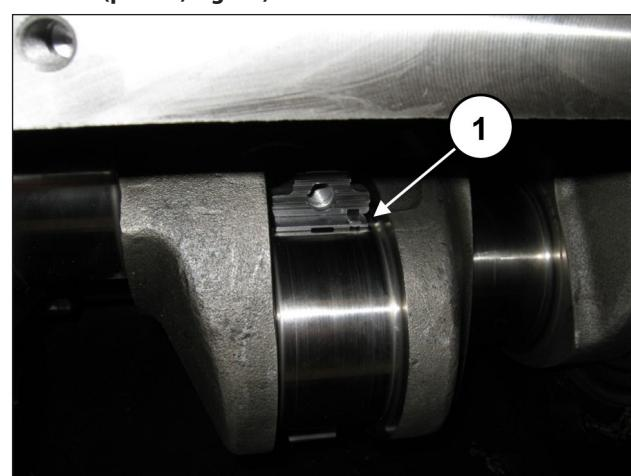

Fig. 65
Insert the upper half-conrod between the conrods and the shaft (pos. ①, Fig. 65).